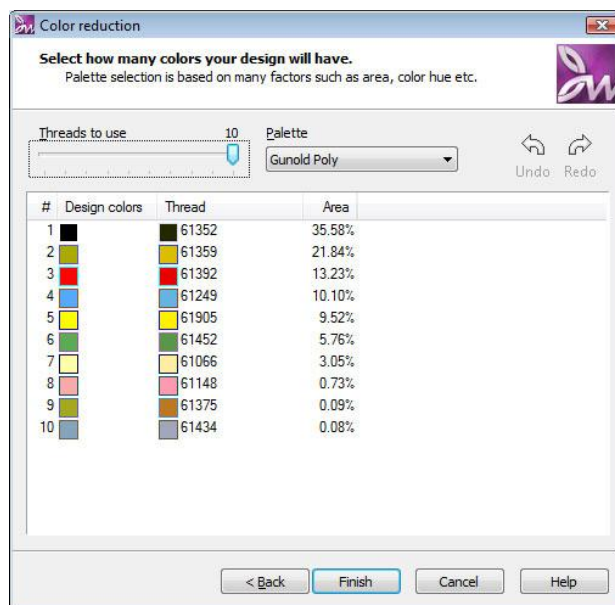

Figure 2.16: Color reduction dialog
26. The **Color reduction** dialog (Figure 2.16) will appear where you can select the **Thread palette** you will use.